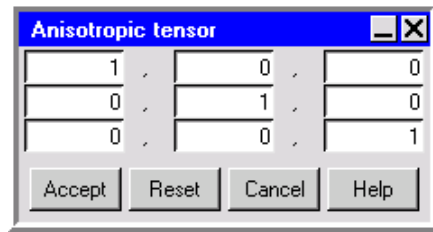

Figure 7.7.3: The Anisotropic tensor Panel
- To specify an anisotropic thermal conductivity, specify the thermal **Conductivity** and then select **Anisotropic** from the **Conductivity type** drop-down list. To define the degree to which the anisotropic conductivity varies in each direction, specify a scaling factor for the conductivity in each of the XX, XY, XZ, YX, YY, YZ, ZX, ZY, and ZZ directions, respectively, next to **Tensor**. Alternatively, you can click on the **Edit** button to the right of the **Tensor** text entry field. This opens the **Anisotropic tensor** panel (Figure 7.7.3).